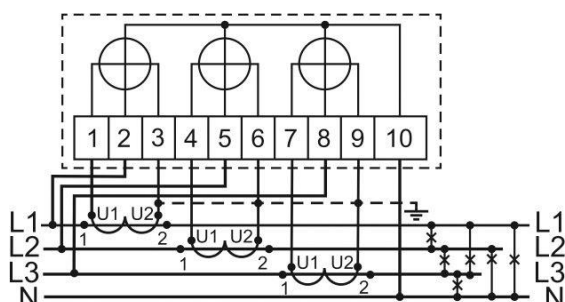

Figure 2. Connection diagram of the meter
6.4. The circuit for connecting the meter to consumer's network shown in Figure 2.
7.5. Before installing the meter, it is necessary to do an external review of the meter, to ensure that there is no mechanical damage, and the availability of seals. The connection of the meter must be carried out in accordance with the diagram shown in Figure 2. All screws must be tightened with a flat blade screwdriver (thickness of the blade is 1 mm) to the point with the force of 2,5 N·m.